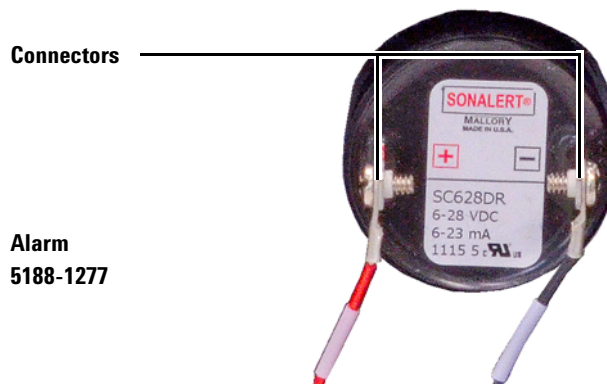

Figure 10 Inside view of the back of the alarm
- 2 Remove the wires (marked **ALRM +** and **ALRM –**) from the alarm (Figure 10).